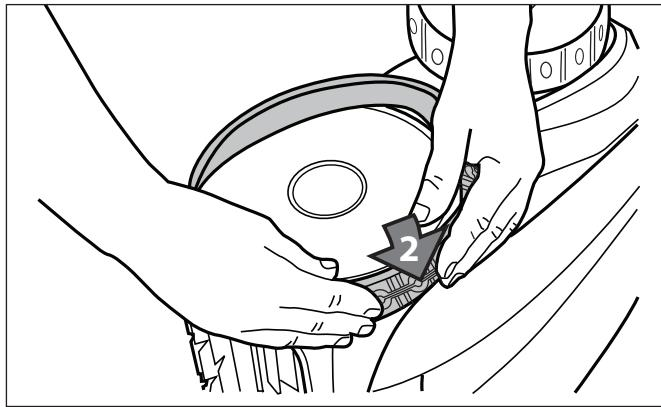

Figure 36. Start on One Side of the Tire
4. Push one side of the tire on to the wheel and fit the rib of the tire in the groove of the wheel (Figure 36).